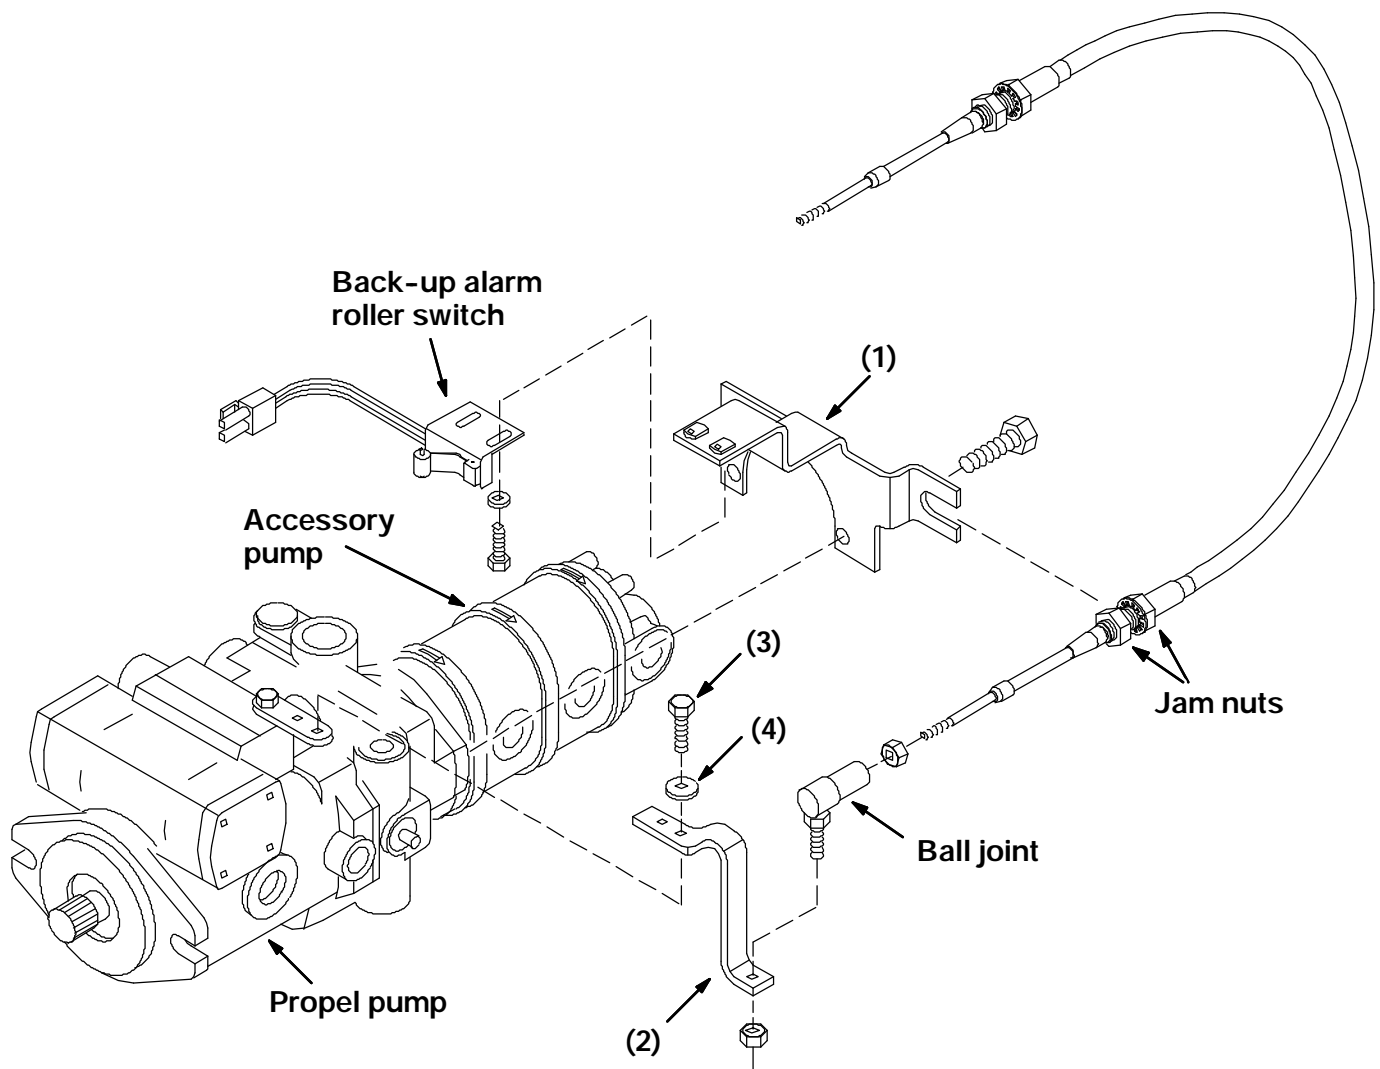

FIG. 2 - New Propel Cable Mount Bracket And Directional Lever
8. Install the new cable mount bracket (1) on the accessory pump mount flange. Re-use the hardware and tighten to 15 - 20 ft lbs. (Refer to FIG. 2)
9. Install the new cable propel bracket (2) on the pump control arm using the two screws (3) and two nuts (4). Tighten to 7 - 10 ft lbs. (Refer to FIG. 2)
10. Install the propel cable ball joint in the mount hole in the new bracket (2). Reinstall the nyloc nut and tighten to 7 - 10 ft lbs. (Refer to FIG. 2)
11. Install the propel cable into the mount slot on the new bracket (1). Tighten the two jam nuts tight. (Refer to FIG. 2)
12. If your machine is equipped with the back-up alarm option--Install the roller switch on the upper bracket on the new cable mount bracket (1). Re-use the hardware removed from the old bracket. Hand tighten tight. (Refer to FIG. 2)